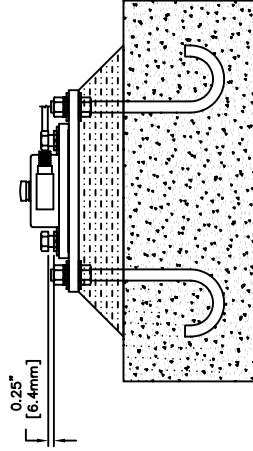

FIGURE 2: LEAVE 1/4" GAP FOR POSITIONING
- b. Install the bolts and nuts as required. DO NOT fully tighten the bolts at this time. Leave a 1/4-inch gap between the nut and the washer to allow for positioning of the Load Disces. (See Figure 2: Gap for positioning).
- d. Tighten the bolts, leaving a 1/4-inch gap for positioning. (See Figure 2 Gap for Positioning).